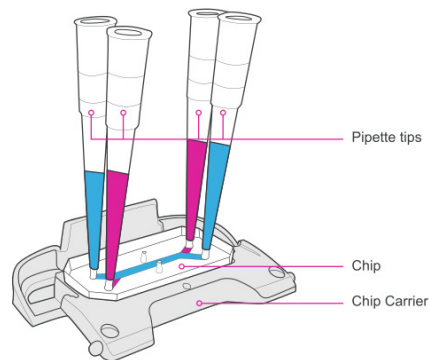

Figure 9: Chip with filtered tips inserted into ports with respective media
2. A gravity wash with 200 μ L of Hepatocyte Maintenance Medium for the top channel and NPC Maintenance Medium for the bottom channel per chip will provide nutrients to cells. Since there are 2 different media being used, these two media must be separated by keeping them in filtered tips instead of drops (see Figure 9).